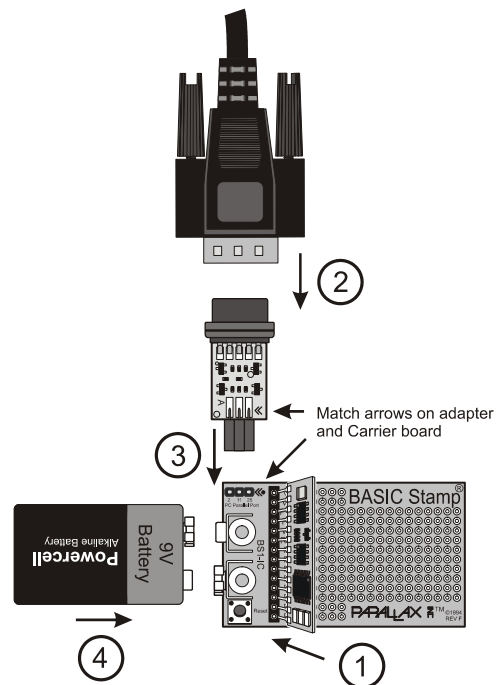

Figure 2.1: BS1-IC, BS1 Carrier Board, and BS1 Serial Adapter
- 2) If you are using a Parallax development board, follow the directions that came with it to connect the board to the appropriate port in your computer. Figure 2.1 below shows the proper sequence for setting up with a BS1 and a BS1 Carrier Board. Figure 2.2 on page 31 shows the proper sequence to connect any BS2. Note: if you are using your own